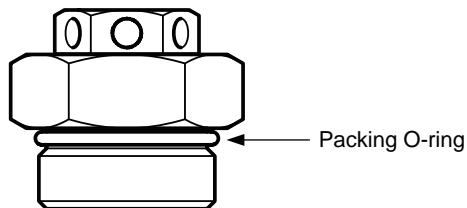
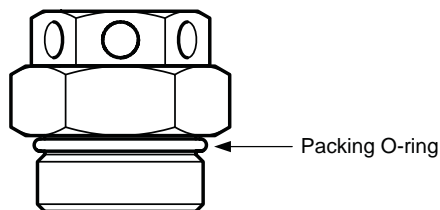

Figure 6-6. 2" Valve/Cylinder Safety Burst Disc Assembly
Figure 6-7. 3" Valve/Cylinder Safety Burst Disc Assembly
1. Remove and discard the safety burst disc assembly (see Figure 6-6 and Figure 6-7).